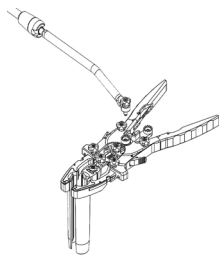

Figure 11
- Align the teeth of the starbursts on the distal end of the **Articulating Arm (ML-0061)** or **Arm Interface (ML-0902)** and on the desired fixation point on the **Retractor frame**, hand tighten and secure into place with the **Hex Driver Tool (Figure 11)**.